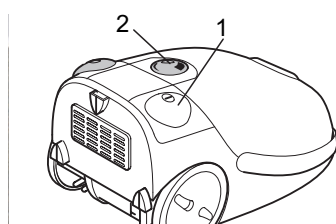

Fig. 7
3. Switch on the cylinder vacuum cleaner using the on/off switch (Fig. 7/1).
4. Turn on the suction using the suction controller (Fig. 7/2).